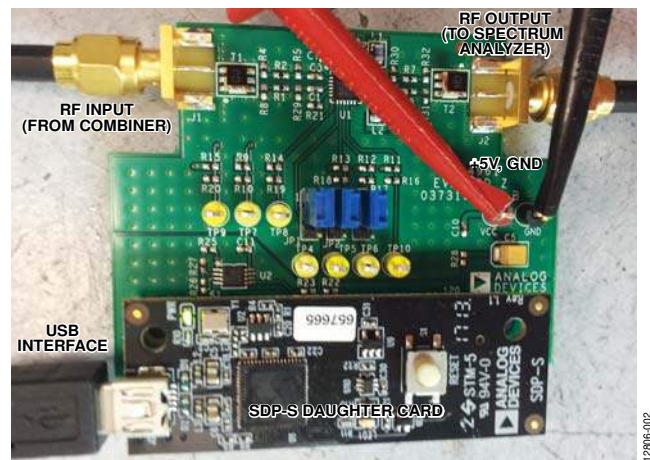

Figure 2. Detail of Connections from Test Equipment and PC to the **ADA4961** Evaluation Board
5. Connect the two generator outputs to the input terminals of the Mini-Circuits combiner. Connect the output of the combiner to the input SMA connector, J1, on the **ADA4961** evaluation board. The output SMA connector, J2, on the **ADA4961** evaluation board connects to the spectrum analyzer. The details of the SMA connections, as well as the **SDP-S** daughter card connection and the USB cable connection to the PC, are shown in Figure 2.
The **ADA4961** interfaces with the PC through the **SDP-S** daughter card interface, as shown in Figure 2.
1. Without applying power to the **ADA4961** evaluation board, connect the evaluation board and the **SDP-S** daughter card, as shown in Figure 2. Connect the **SDP-S** USB cable to the PC.